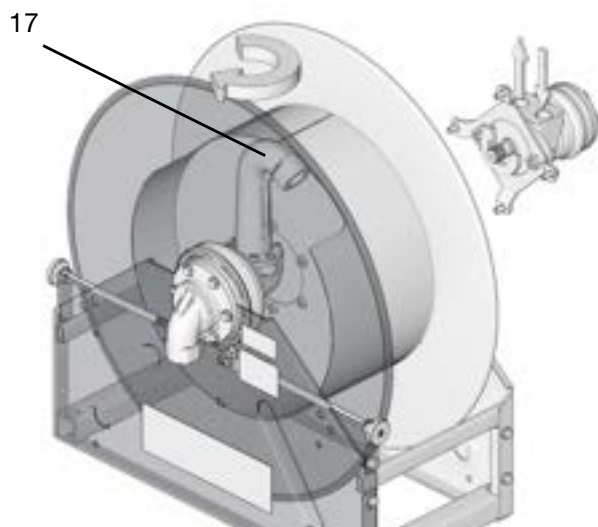

FIG. 25
- b. Turn outlet (17) 180° as shown in FIG. 25.